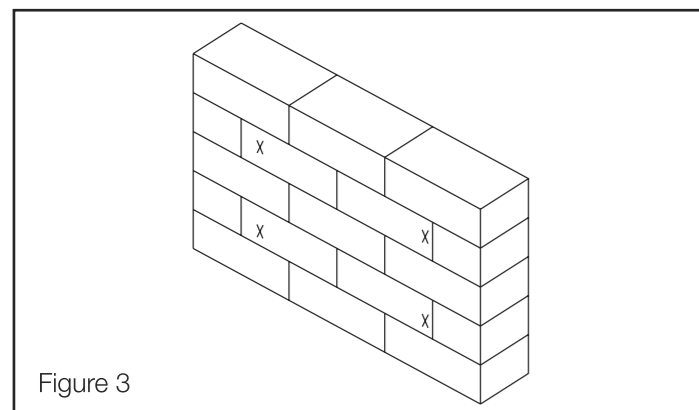

Figure 3
1. Mark a minimum of 4 fixing holes (preferably 6) using the Wall Plate as a guide - position 2 at either end of the Wall Plate (see Figure 3). Ensure plate is level using a spirit level.